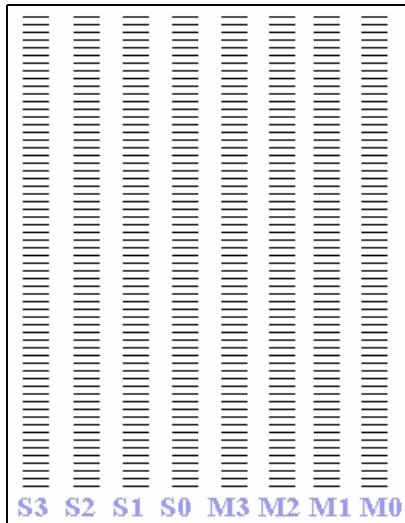

Figure 6-22: Sample Pattern Test
2. Start the Head Cleaning Wizard from the *Options* menu of the printer interface (see figure 6-22 on page 6-22).